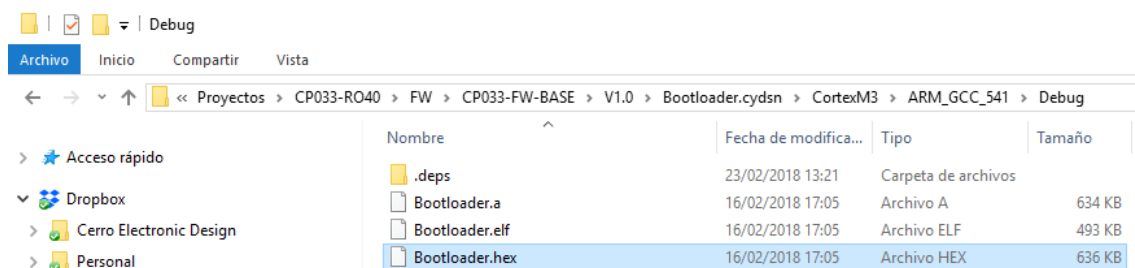

Figure 37: Bootloader FW localization on project
- File: **CP033- bootloader.hex** (supplied by Cerro) and can be found in the Project (see Figure 37: Bootloader FW localization on project).